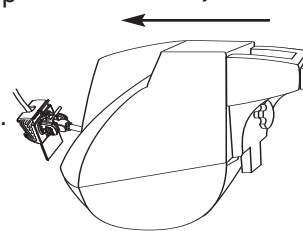

FIG. 5
8. Adjust the driver's seat forward until it touches the handle on the back on the BrakeBuddy (Fig. 5).